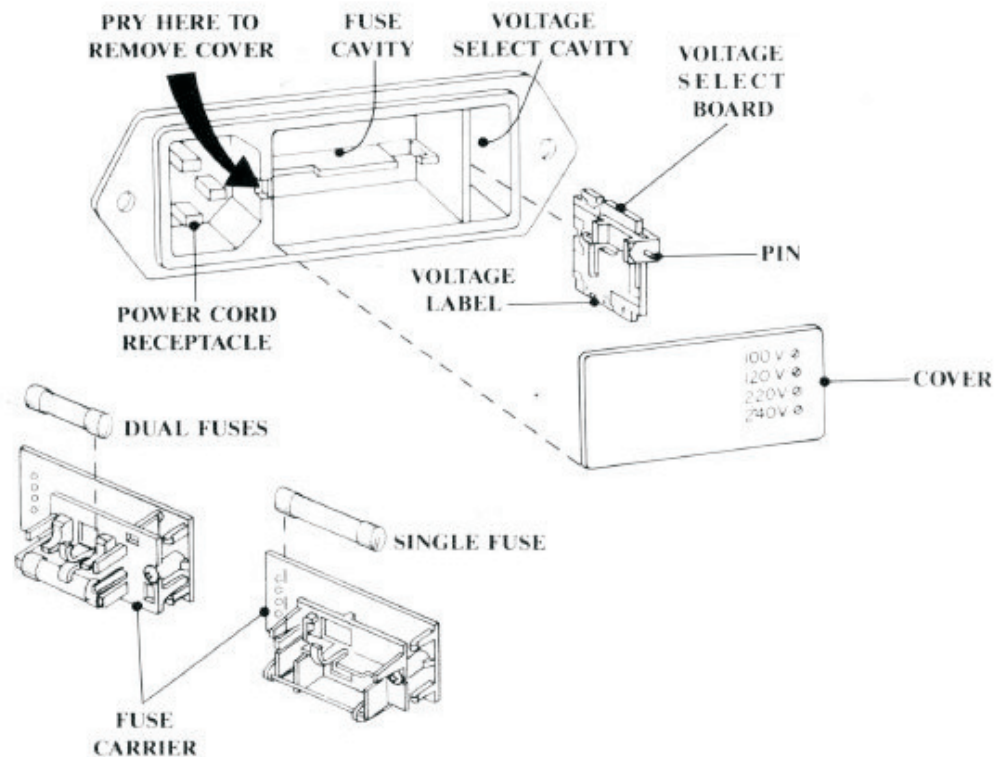

Figure 2.2 Power Entry Module
2. Unplug the power cord from the ac wall outlet and from the power cord receptacle on the power entry module. See Figure 2.2.